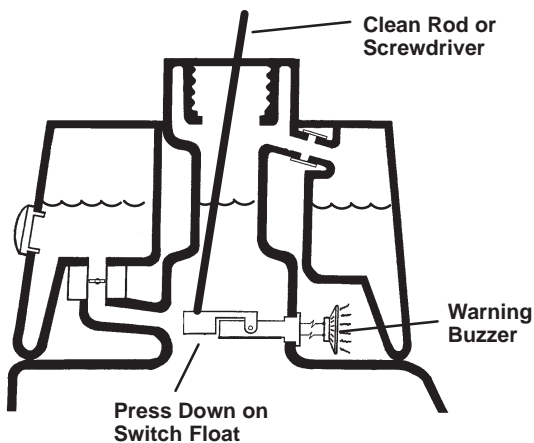

Figure 28
3. Insert a clean rod or screwdriver into the tank neck and gently push down on the switch float (Fig. 28). The alarm should sound after the one-second delay.